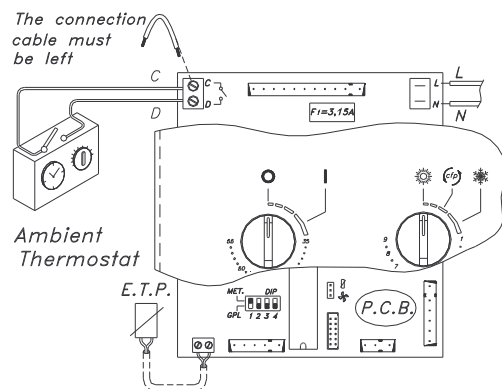

Fig.25
- **Ambient thermostat**; It's advisable to choose an high quality thermostat (with low differential). This ambient thermostat must be linked to the connectors **C** and **D** on the P.C.B. (Fig.25). The electrical connection must be cut off using a cable composed by two wires (in accordance with local regulations).
Rif. Fig.25 In this kind of connection, the existing connection wire must be cut off from the connector C-D of the circuit "P.C.B."